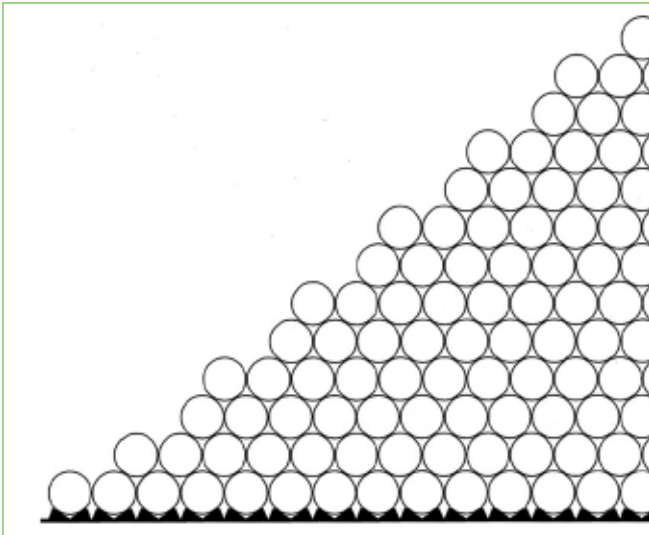

Figure 7. Arrangement of pipes, stacked on Pipe Stop system
- After building and checking the bottom layer of the pipe stack, continue by positioning the remaining pipes. See Fig. 7 how to arrange the pipe stack. **Make sure the vacant pipe positions on the outside of the pipe stack are respected!**